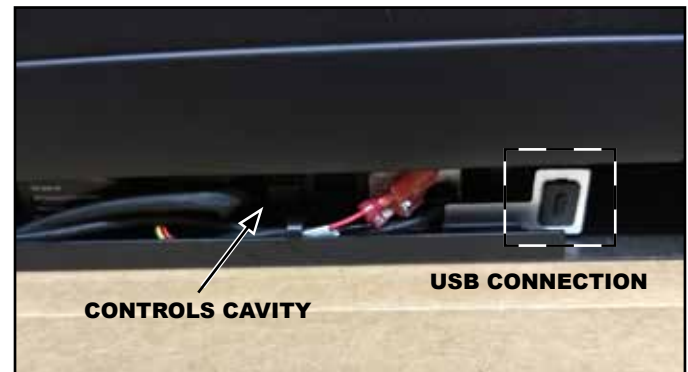

Figure 3.8
5. Locate the USB-C connector on the appliance as shown in Figure 3.8. Remove rubber plug from the USB-C port and insert the battery backup power source USB-C connector into the appliance USB-C port. Save USB-C rubber plug for reusing after power has been restored.